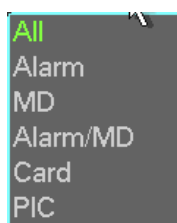

Figure 4-33
- Figure 4-33. Please click the Add button and then select the pictures. Click the Start button; you can copy the specified pictures to the selected portable devices.